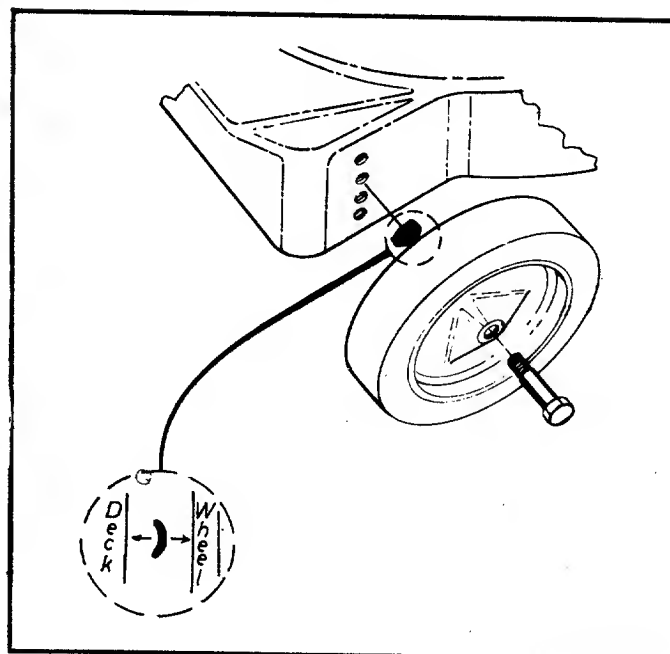

FIGURE 2
7. Place crown side of belleville washer (c) towards the wheel (away from deck). See figure 2.